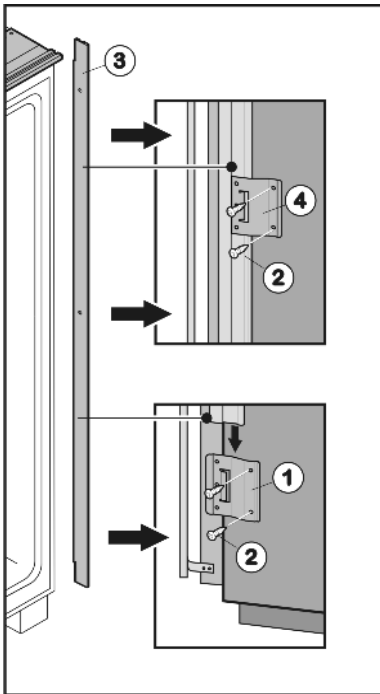
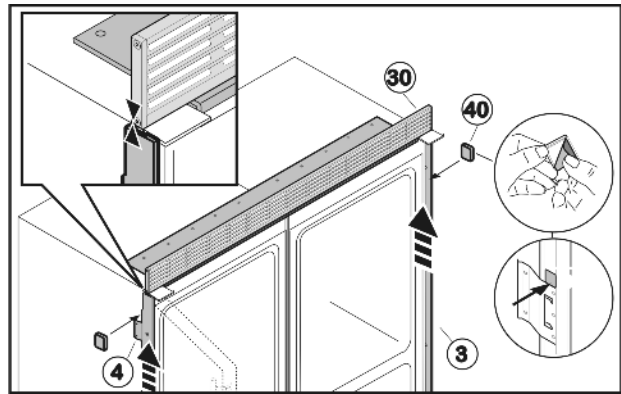

Fig. 60
Fig. 70
- ▶ Unscrew retaining plates Fig. 60 (1,4) and remove rail Fig. 60 (3).
- ▶ Fit retaining plate Fig. 60 (1) to the lower part of the hinge side by inserting two screws Fig. 60 (2) into the pre-cut holes.
- ▶ Slide rail Fig. 60 (3) into the retaining plate Fig. 60 (1) from above.
- ▶ Push second retaining plate Fig. 60 (4) onto the rail from above and screw onto the center of the side wall.
- ▶ Push third retaining plate Fig. 60 (4) onto the rail from above and screw onto the top part of the side wall.
- ▶ Remove adhesive tape from the side installation strip Fig. 70 (3).
- ▶ Push installation strip Fig. 70 (3) upwards until it is touching the ventilation grille Fig. 70 (30).
- ▶ Glue the adhesive plates Fig. 70 (40) above the retaining plate Fig. 60 (1) and the retaining plates Fig. 70 (4) respectively to the installation strip Fig. 70 (3) such that it cannot slide downwards.